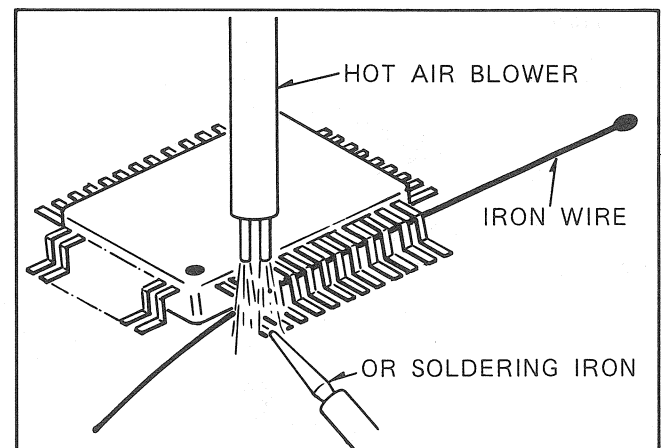

FIG. G12
- (1) Affix the wire to workbench or solid mounting point as shown in FIG.G12.
- (2) Pull up wire as the solder melts so as to lift the IC lead from the PCB contact pad, while heating the pins using a fine tip soldering iron or hot air blower.